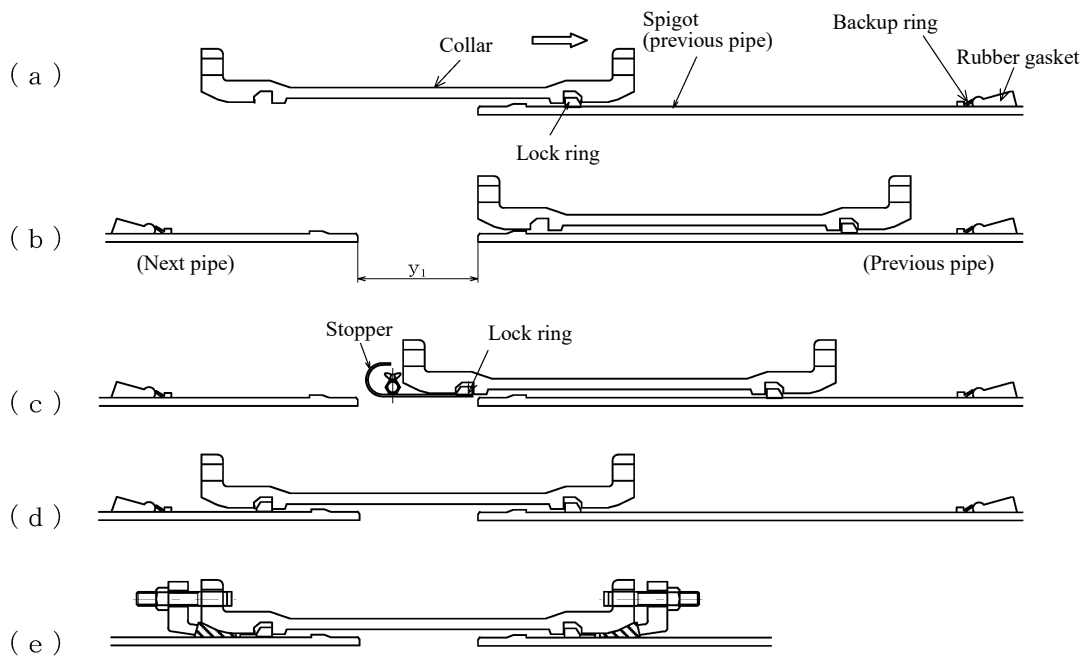
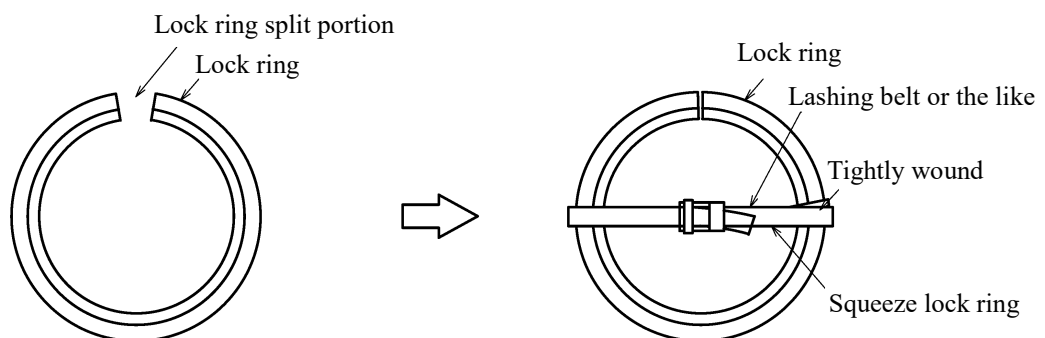

Figure-35 Connecting two pipes to tie in with collar
Figure-36 Squeezing lock ring
- (2) Install the rubber gasket and backup ring on the spigot of the previous pipe.
- (3) Remove the lock ring of the collar on the side of the next pipe.
- (4) Expand the lock ring of the collar close to the previous pipe with the stopper. And then, install the collar on the previous pipe and pull out the stopper. (See Figure-35 (a).)
- (5) Install the rubber gasket and the backup ring on the spigot of the next pipe. And then, align the next pipe with the previous pipe keeping the distance between the two pipes at y_1 in Table-10. (See Figure-35 (b).)
- (6) Slide the collar to the position shown in Figure-35 (c), and put the lock ring inside the socket of the collar close to the next pipe. The lock ring easily enters the socket inside if it is squeezed with a lashing belt or the like. (See Figure-36.)
- (7) Expand the lock ring of the collar on the side of the next pipe with the stopper. After that, slide the collar onto the next pipe and pull out the stopper. (See Figure-35 (d).)
- (8) Assemble the joints of the collar with the same procedure as pipes. (See Figure-35 (e).)